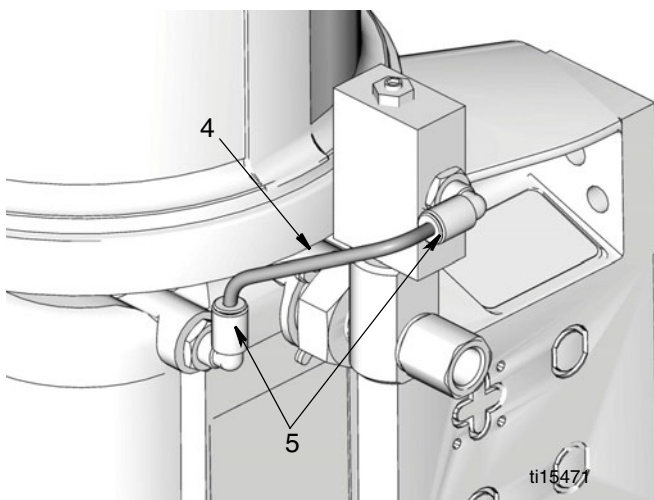

FIG. 7
14. Install supply tube between the two elbow fittings (5) (FIG. 7). Push in to seat.